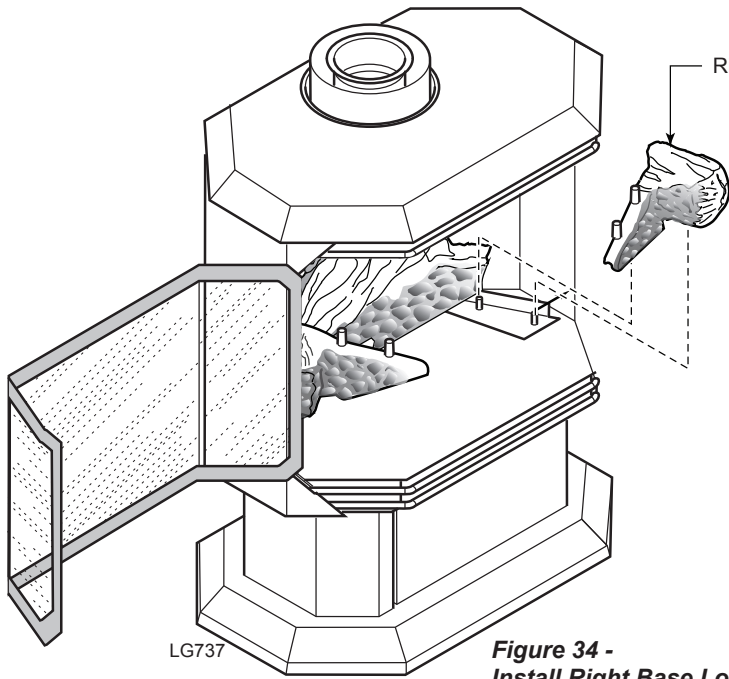

**Figure 32 -
3. Place rear log against back of firebox. *Figure 32*